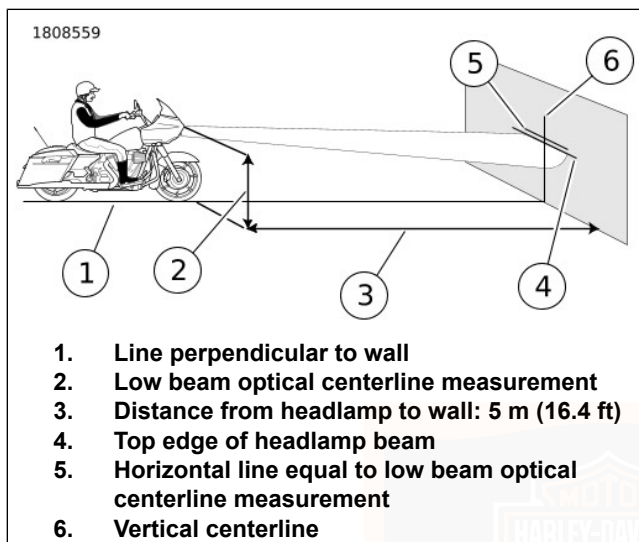

Figure 114. Headlamp Alignment
4. See Figure 114. Park the motorcycle on a line (1) perpendicular to the wall.
5. Position motorcycle so that the front of the headlamp is 5 m (16.4 ft) from the wall (3).
6. Draw a vertical centerline (6) on the wall aligned with perpendicular line (1).
7. With the motorcycle loaded, point the front wheel straight at wall. Measure the distance from the floor to the motorcycle eyebrow and subtract Distance: 25 mm (1 in) from that measurement to find low beam optical centerline (2).
8. Draw a horizontal line (5) through the vertical line on the wall, the same distance (2) from the floor as the low beam optical centerline. Draw another horizontal line (4) Distance: 25 mm (1 in) below horizontal line (5).